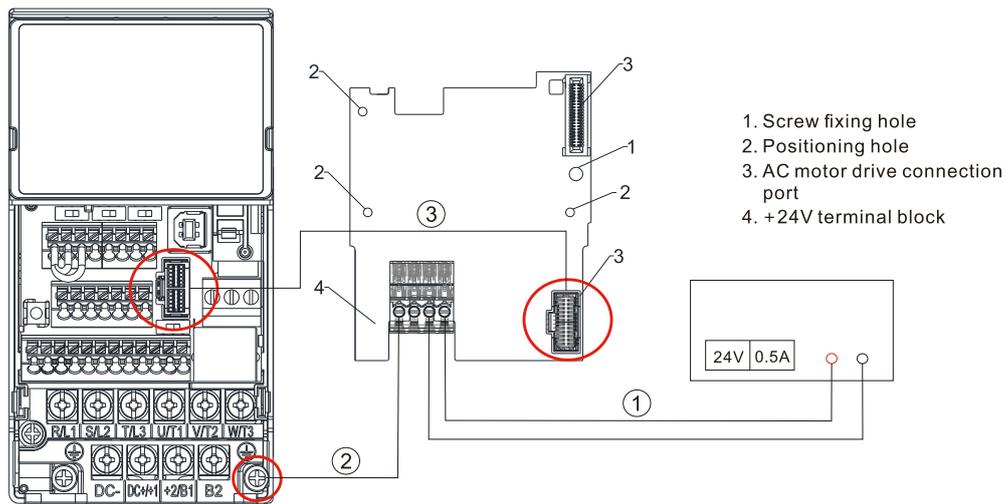

Figure 8-50
Operating procedures (refer to the mark ①②③ in the Figure 8-50)
- ① Choose the power supply or the host to connect the positive and negative electrodes to +24V power card.
- ② Connect the ground terminal of +24V power card and the ground terminal of the drive.
- ③ Connect one side of the cable to the connection port of the drive and another side to the +24V power card's.